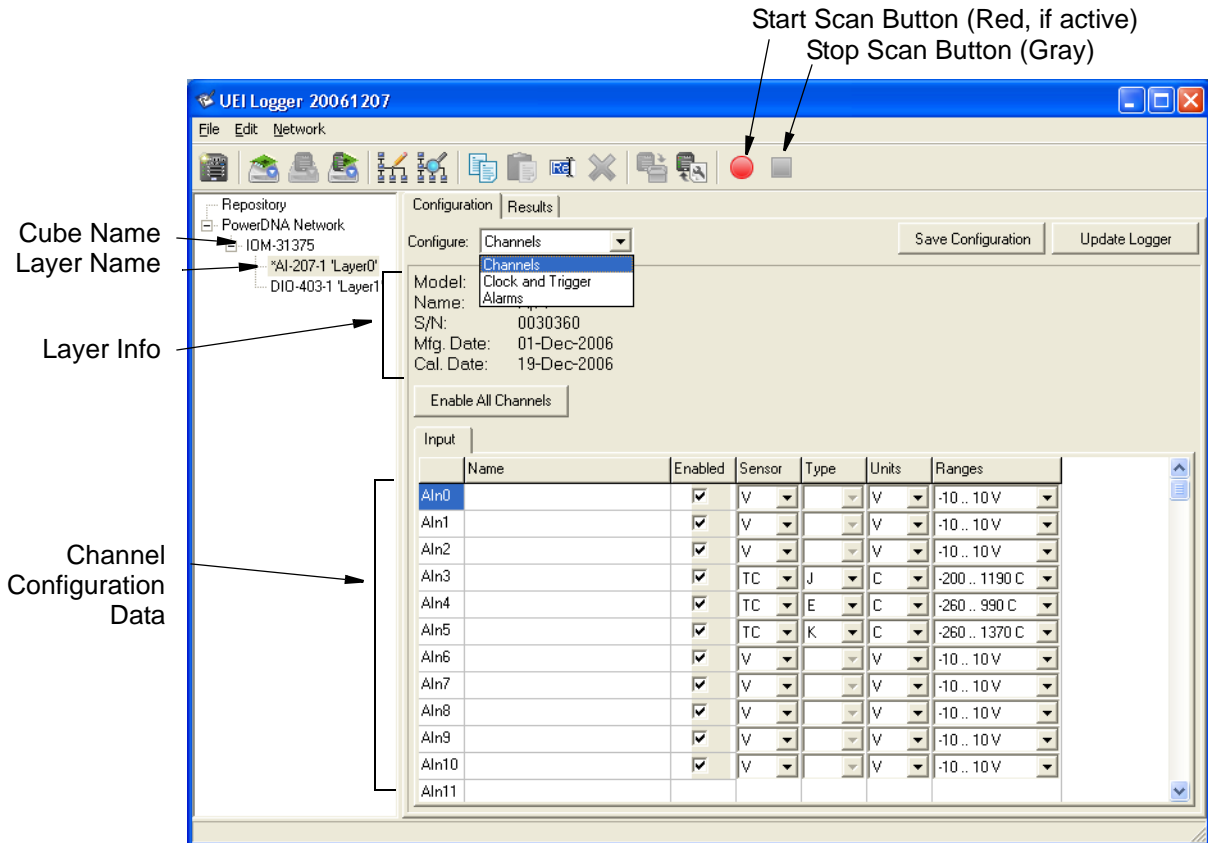

Figure 2-16. AI-207 Configuration Screen – Configuration Tab
STEP 5: Click on AI-207-1'Layer0'. The screen shown in **Figure 2-16** appears. in the Configure box, pull down the menu and select "Channels."
In **Figure 2-16**, the screen shows the configuration settings for each analog input on the layer. You can enter a descriptive name in the Name box for each channel. To select other settings, click the down arrow beside each item to pull down the menu and select the desired option (sensor type, thermocouple type, measurement units, selected range). Clicking the check box on each input line enables or disables that specific channel. Clicking the *Enable All Channels* button turns on all channels.